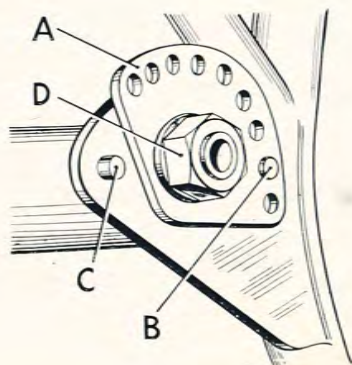

Fig. 17.
Chain adjusters are situated at the swinging arm pivot (Fig. 17), and comprise quadrants (A) — one on each side — pierced with holes positioned at different radii from the pivot. Slacken the securing nut (D) by an amount sufficient to allow the quadrants on both sides to be lifted off their retaining pegs (B) and draw the swinging arm rearwards, rotating the quadrants until a new hole is aligned with the peg in the frame. Corresponding holes must be selected for both sides of the machine. Now tighten the securing nut and the damper unit pivots. Readjust the brake.